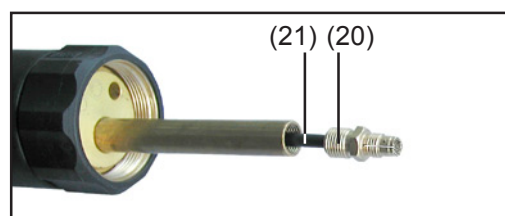

Fig. 14 Undoing the clamping piece
- At the welding torch connector end of the hosepack, mount the clamping piece (20) and then tighten the lock-nut (19) using the fork-spanner with a span of 10 mm = .39 in.
- Cut the inner liner (21) to length on the lock-nut (19) as shown in Fig.14